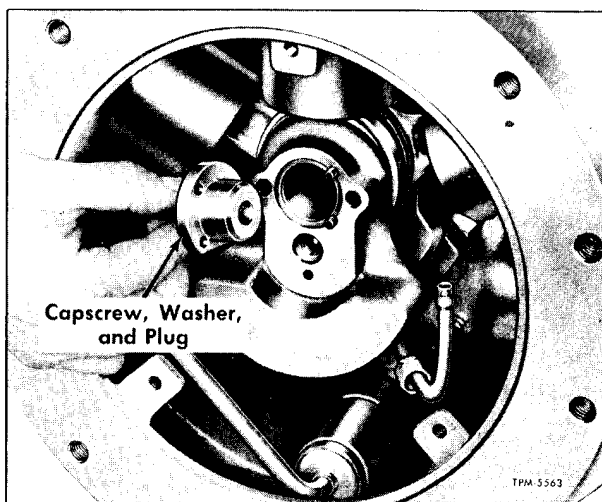
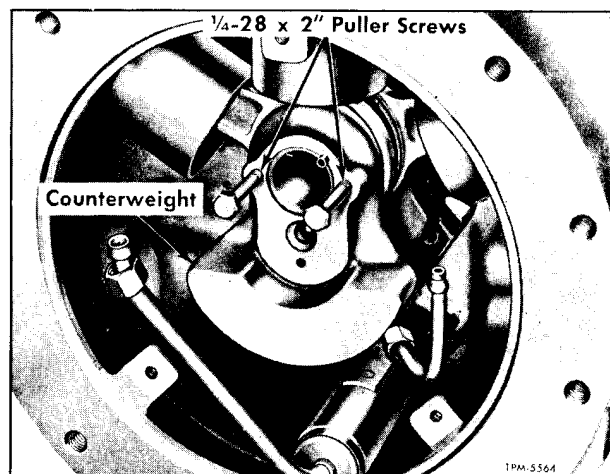

Figure 47—Replacing Counterweight, Plug, Washer, and Cap Screw
Figure 48—Method of Pulling Crankshaft Counterweight
2. Remove socket head cap screw, lock washer, and plug which retain counterweight (29) on compressor crankshaft (fig. 47). Use two puller screws (1/4-28 x 2") to force counterweight from crankshaft (fig. 48). Use care not to loosen the two dowel pins in counterweight.
5. Clean and oil the surface of crankshaft which is to contact the crankshaft counterweight (29). Align counterweight dowel pins with locating holes in crankshaft, then press counterweight to crankshaft. Tap counterweight to seat it firmly to shaft.
6. Install plug into crankshaft end (fig. 47). **NOTE:** The dowel pins which extend beyond counterweight must align with recesses in plug. Install lock washer and cap screw. Tighten cap screw to 23 foot-pounds torque.